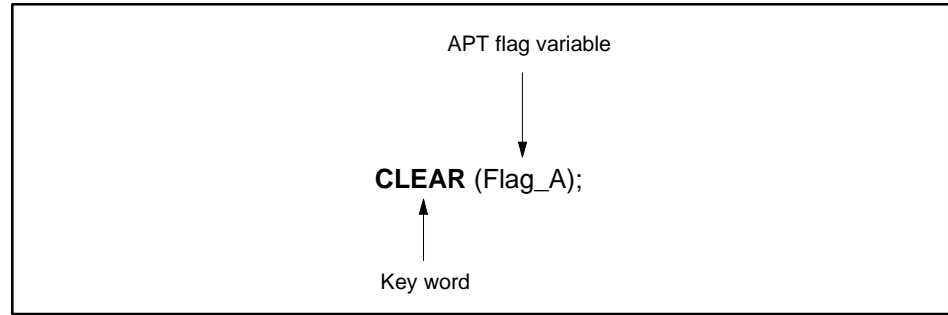

Figure 11-13 CLEAR Procedure
- The variable in the parentheses is the APT flag that is turned off (false). See the example in Figure 11-13.